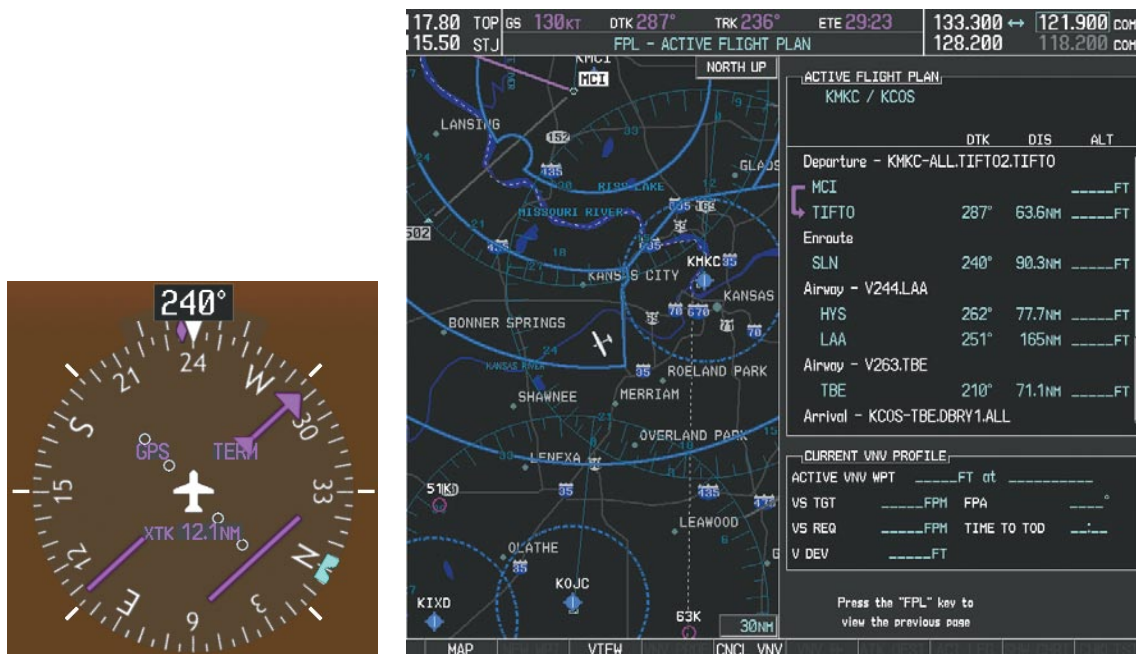

Figure 5-102 Assigned Heading of 240°
- 1) Prior to departure, the TIFTO2 departure, the airways, and the DBRY1 arrival at KCOS are loaded. See the Procedures section for loading departures and arrivals. Note the magenta arrow in Figure 5-102 indicating the active departure leg.
- 2) Figure 5-102 shows the aircraft on the assigned heading of 240°. 'TERM' (Terminal) is the current CDI flight phase displayed on the HSI indicating 1.0 nm CDI scaling.